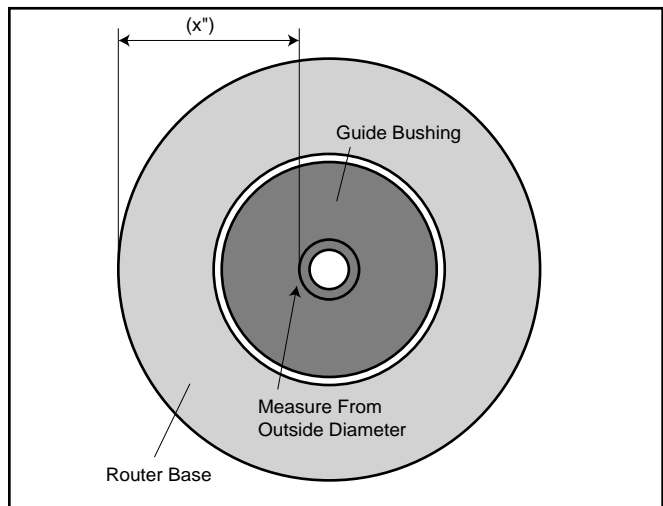

Figure 16. (Bottom) Measure distance from edge of router base to the outside edge of guide bushing.
1. Measure the distance (x") from the edge of your router base to the outside edge of the guide bushing. See **Figure 16**.
Thickness of Vertical Piece (Measurement x" from Fig.16)